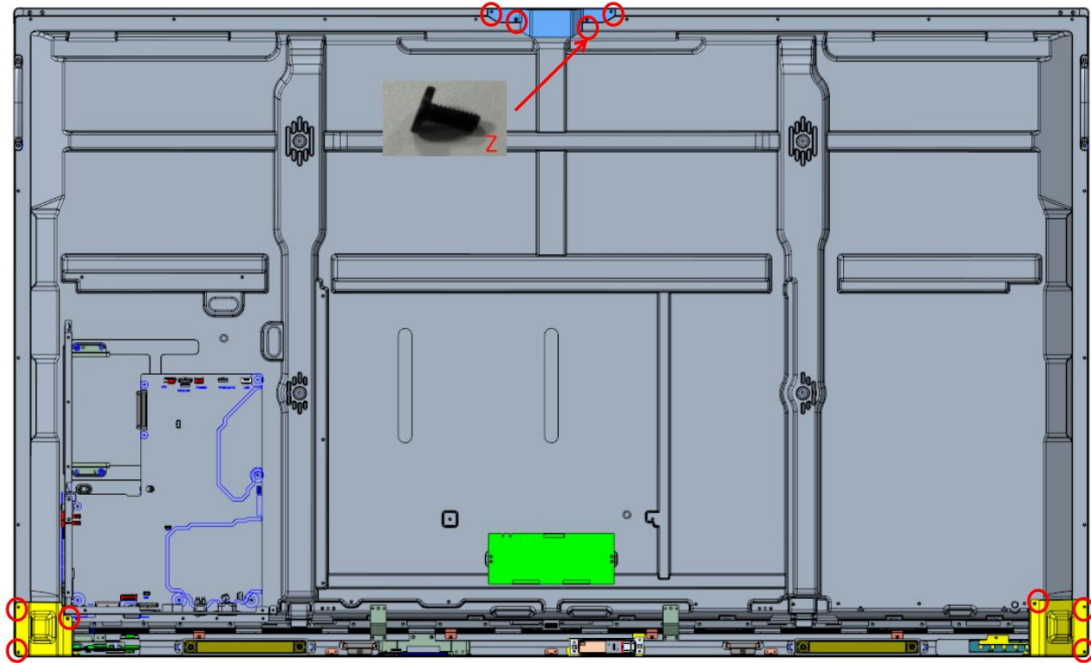

Figure 5
STEP 3: Continue to use an electric screwdriver and M3 adapter to remove all screws corresponding to the red circles in the Figure 5.